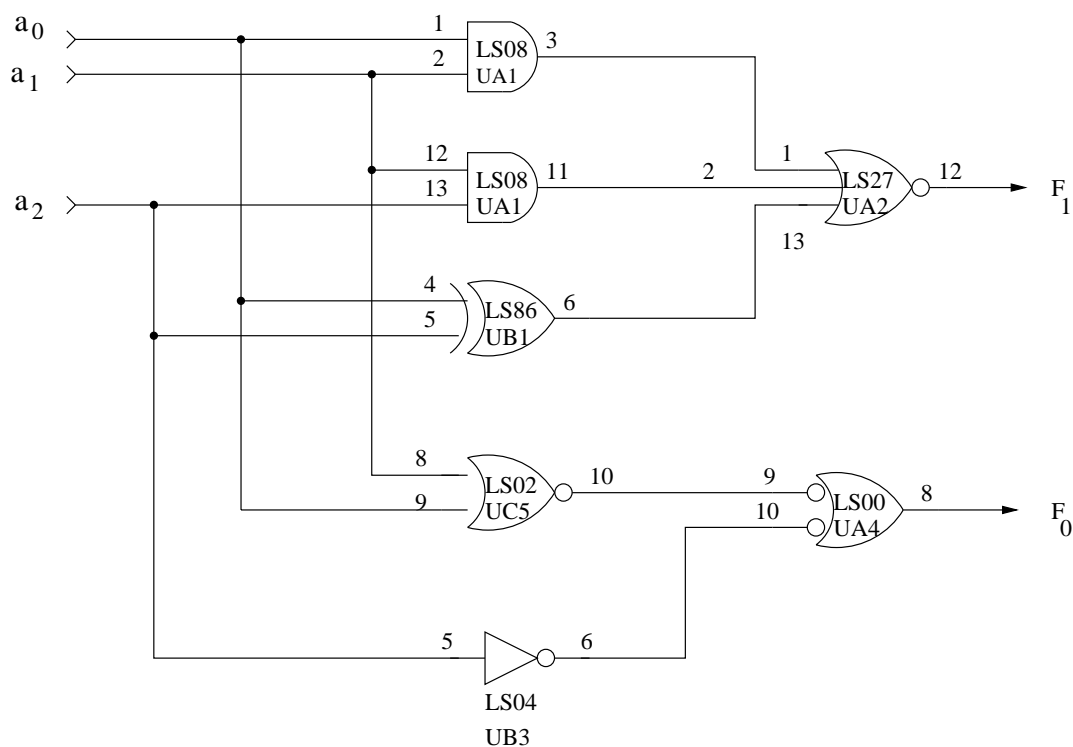

Figure 1: Logic Diagram Fragment
- Label all input and output signals to a circuit. One starting point for each is best, splitting the signal as required for multiple inputs. In dense diagrams, this may not be possible. In that case, label all instances of a signal. A logic diagram fragment is shown in Figure 1.